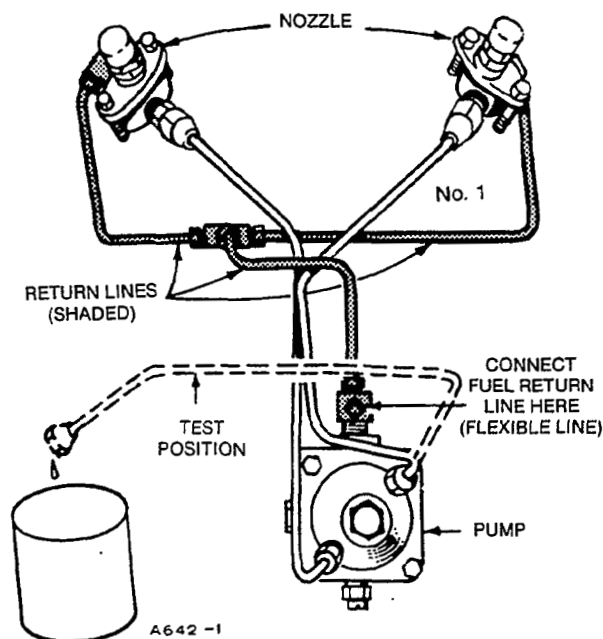
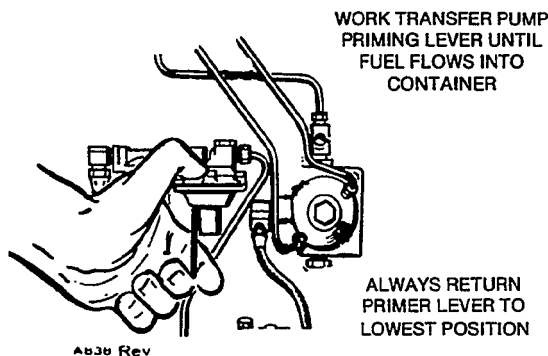

FIGURE 51. FUEL LINE TO INJECTORS
FIGURE 53. OPERATING TRANSFER PUMP MANUALLY
3. Remove No. 1 injection line. Install No. 1 injection line with top end of line in pump outlet. Place an open container under open end of No. 1 injection line (Figure 51).
6. Manually operate fuel transfer pump (Figure 53) until fuel, free of air, flows from open end of No. 1 injection line into container (Figure 51).